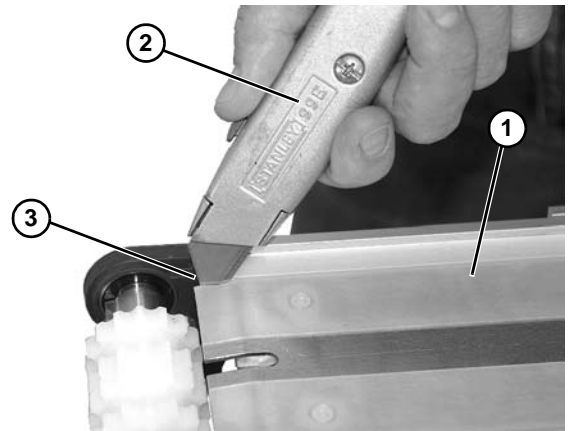

Figure 56
5. Install new wear strip (**Figure 56, item 1**).
6. Using a utility knife (**Figure 56, item 2**), cut out notch in each corner (**Figure 56, item 3**).